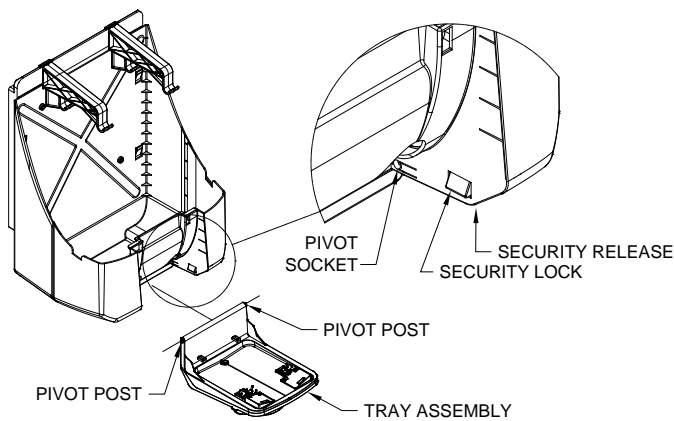

Figure 5
Step 4. Tray Assembly (Ref Figure 5)
- A. Return Lid Assembly (Ref Step 5) and Close Tray Assembly. NOTE: Tray cannot be closed with Security Lock engaged. To disengage Security Lock press and hold Security Release, accessible through the bottom of Housing Assembly (Ref Figure 5).